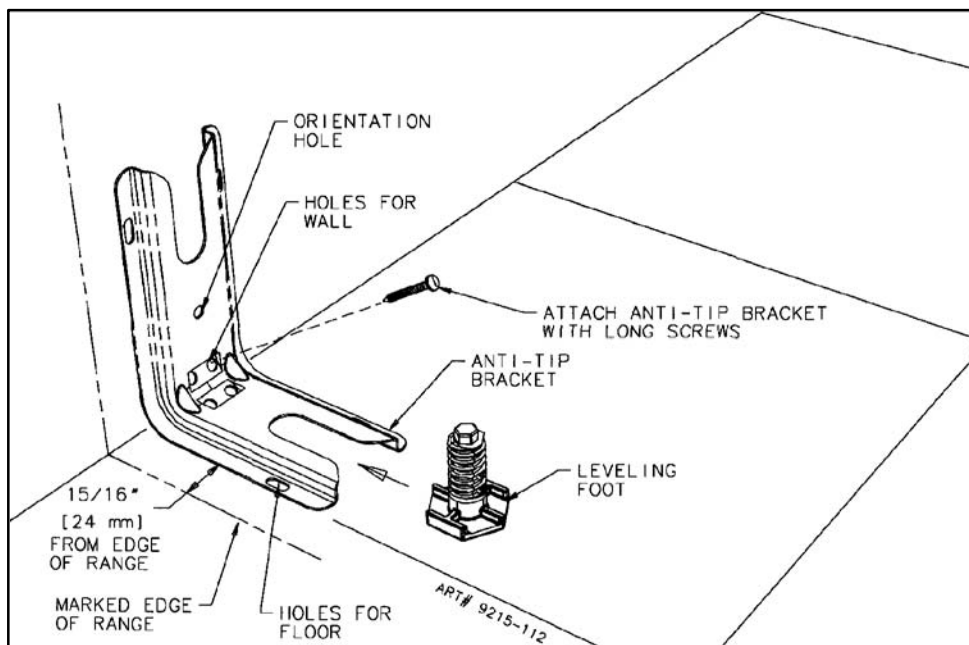
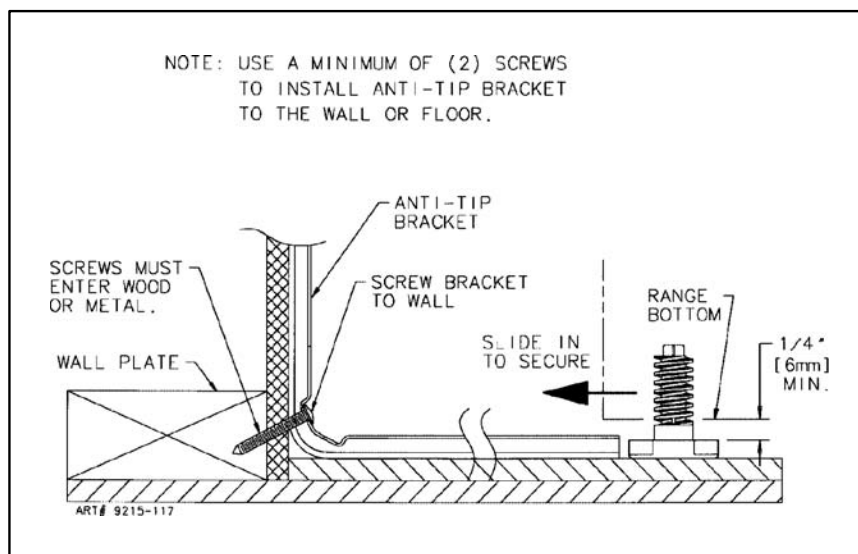

FIGURE 5
FIGURE 6
Install the bracket with the orientation hole in the longer leg against the wall as shown in figure 5.
(See Figure 5)
- Place the BRACKET 15/16" (24mm) from the marked "EDGE" toward center of opening and against the back wall as shown in figure 5, with orientation hole against wall.
- Use the bracket as a template and mark the required holes, as shown in figure 5, for the type of construction you will be using.
1. Floor: Locate the center of the two holes identified in figure 5 as "HOLES FOR FLOOR." Drill a 1/8 (3 mm) pilot hole in the center of each hole (a nail or awl may be used if a drill is not available). Secure the ANTI-TIP bracket to the floor with the two screws provided. Proceed to STEP 3.
2. Wall: Locate the center of the two holes identified in figure 5 as "HOLES FOR WALL." Drill an angled 1/8 (3 mm) pilot hole in the center of each hole as shown in figure 6. (A nail or awl may be used if a drill is not available). Secure the ANTI-TIP bracket to the wall with the two screws provided as shown in figure 6. Proceed to STEP 3.
1. Suitable screws for concrete construction can be obtained at the hardware store. Drill the required size hole for the hardware obtained into the concrete at the center of the holes identified in figure 5 as "HOLES FOR FLOOR". Secure the ANTI-TIP bracket to the floor. Proceed to STEP 3.
- B. Align the range to its designated location and slide it back into position. Note: A minimum clearance of 1/4 (6 mm) is required between the range and the leveling foot that will engage the ANTI-TIP bracket, see figure 6.